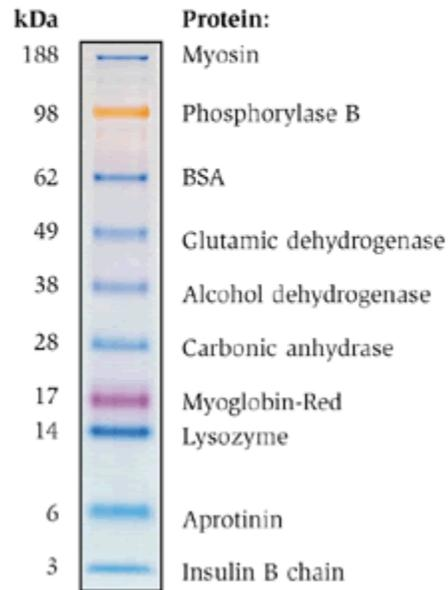

Figure 1: Molecular Weight Maker Diagram
9.1. Figure 1: Molecular Weight Marker Diagram